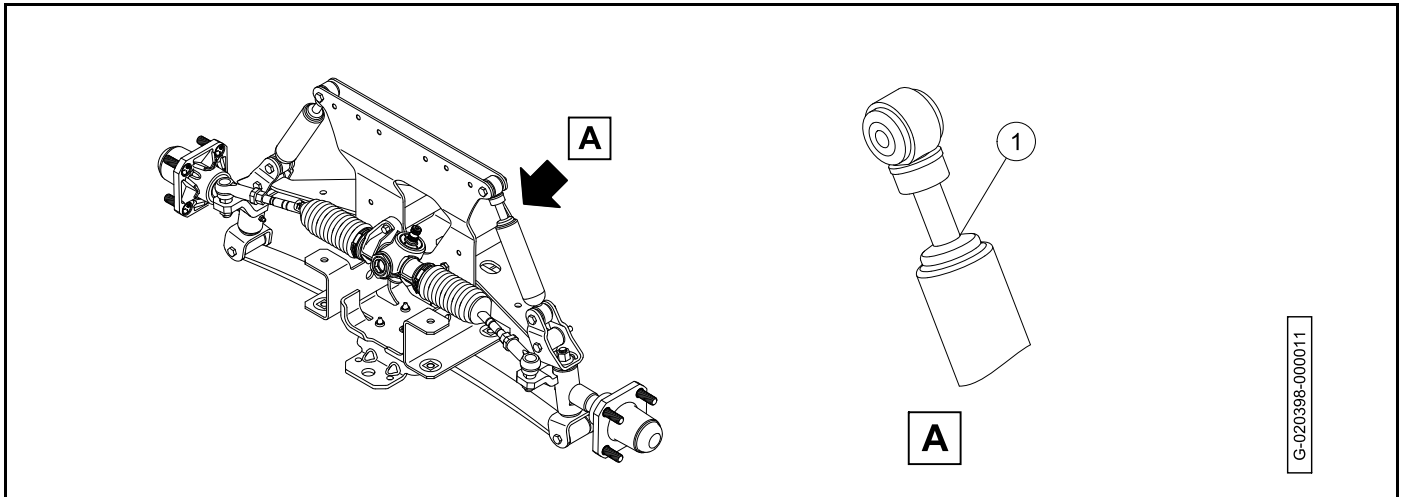

Figure 7-24
1. Examine the area (1) where the shaft enters the shock absorber body (Figure 7-24).